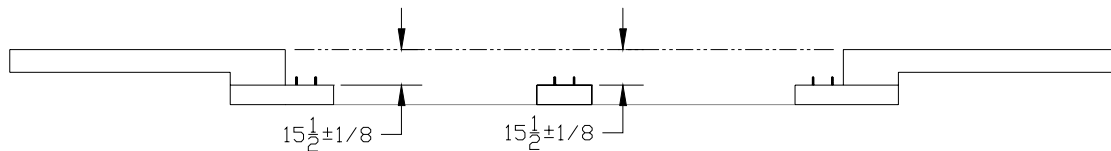

Figure 5 - Pile Caps for Grouted Installation
1. Measure the elevation of the pile caps or piers, using a transit, relative to the top of the approach ramps and to each other. Make sure that the height from the piles to the top of the ramps is $15\frac{1}{2} \pm \frac{1}{8}$ " (See Figure 5).